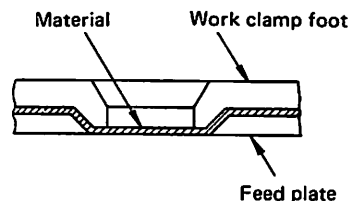

Fig. 17
D. Prevent the material under the work clamp foot from fluttering. A special set of work clamp components by which the material can be securely clamped in a "U" shape (as shown in Fig. 17) prevents the material from fluttering while stitching. Large-size bar tacking components designed for knit goods are available;